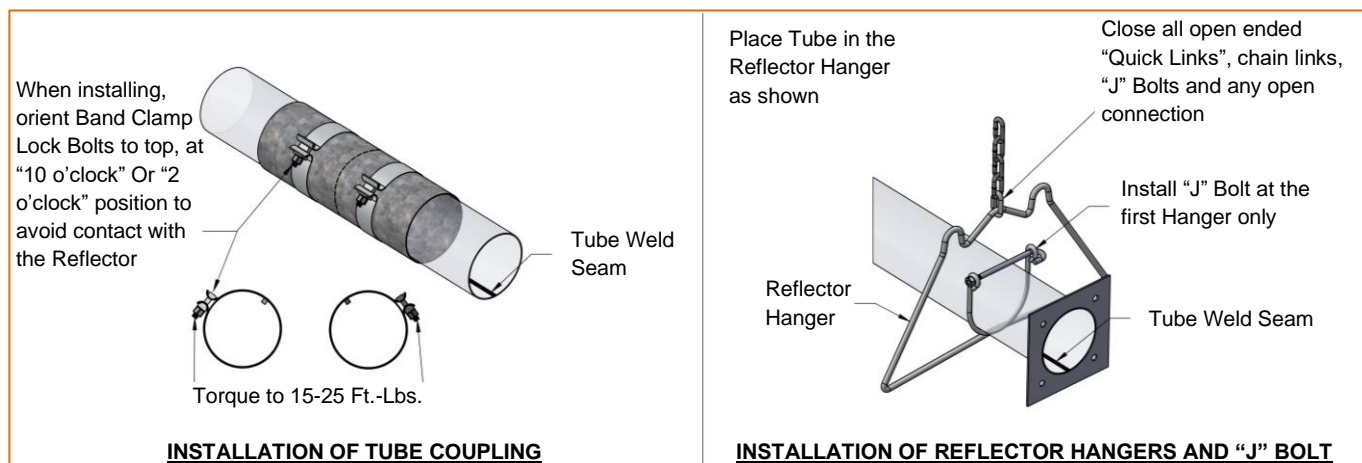

Figure 9: “J” Bolt and Coupling Installations
- Tighten the cradle loops of the first hanger with the “J” Bolt found in the burner box, to snugly hold the combustion tube from rotating see Figure 9
Note: In order to obtain smoothly sealed coupling liners, tighten each of the coupling bands progressively and alternately. Tightening one band completely before the other may result in an undesirable wrinkle in the liner (refer to Figure 9). **Be sure not to over torque the coupling. (Torque coupling to 15-25 lbf-ft).**